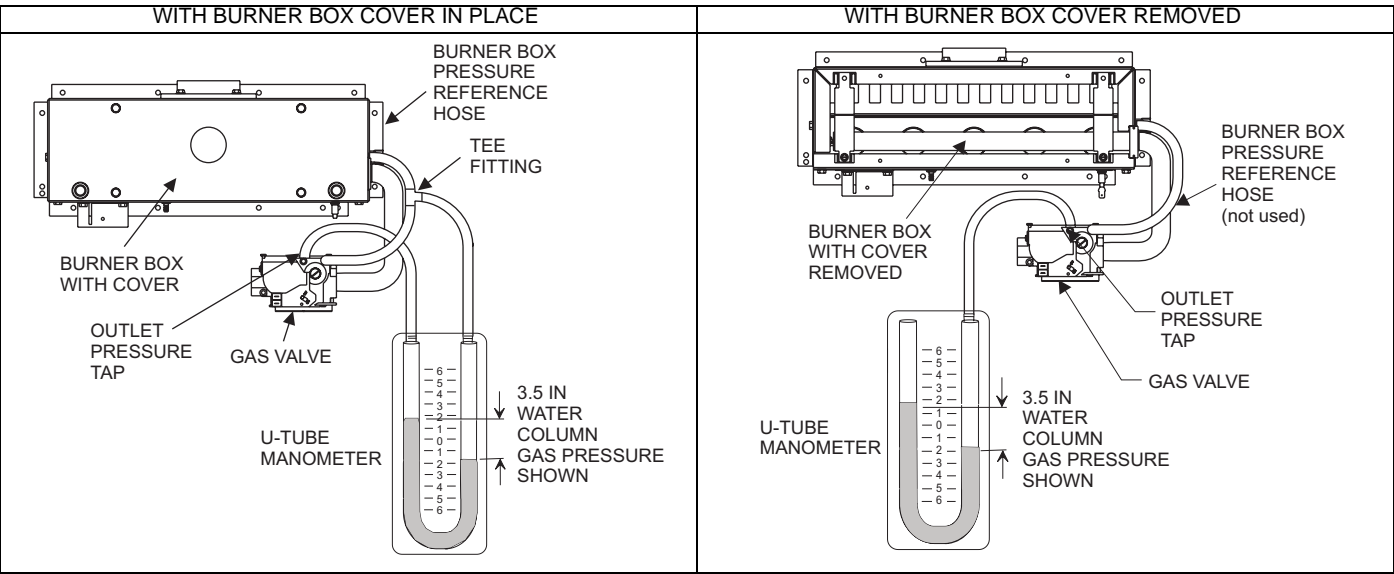

FIGURE 26: Reading Gas Pressure
- E. Use the 5/16" (7.94 mm x 1/8" (3.175 mm) reducing coupling and a 4" (101.6 mm) piece of 1/8" (3.175 mm) tubing to connect the positive side of the manometer to the gas valve pressure reference port. Refer to Figure 26 for connection details.
Remove the screws securing the burner box front cover plate. Remove the cover. The gasket and may stick in place. Connect the positive side of the manometer to the gas valve as described in E above. There will be no second connection to the manometer, as it will reference atmospheric pressure. Refer to Figure 26 for connection details.